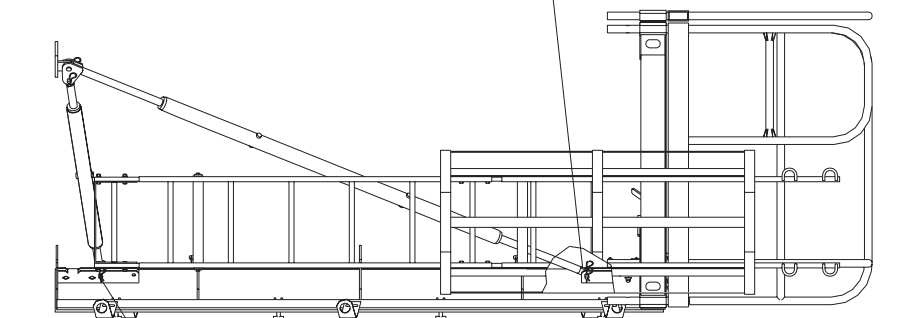

Fig.17
2. Insert bolts and cotter pins into push-pull props and kicker braces. Fig. 17